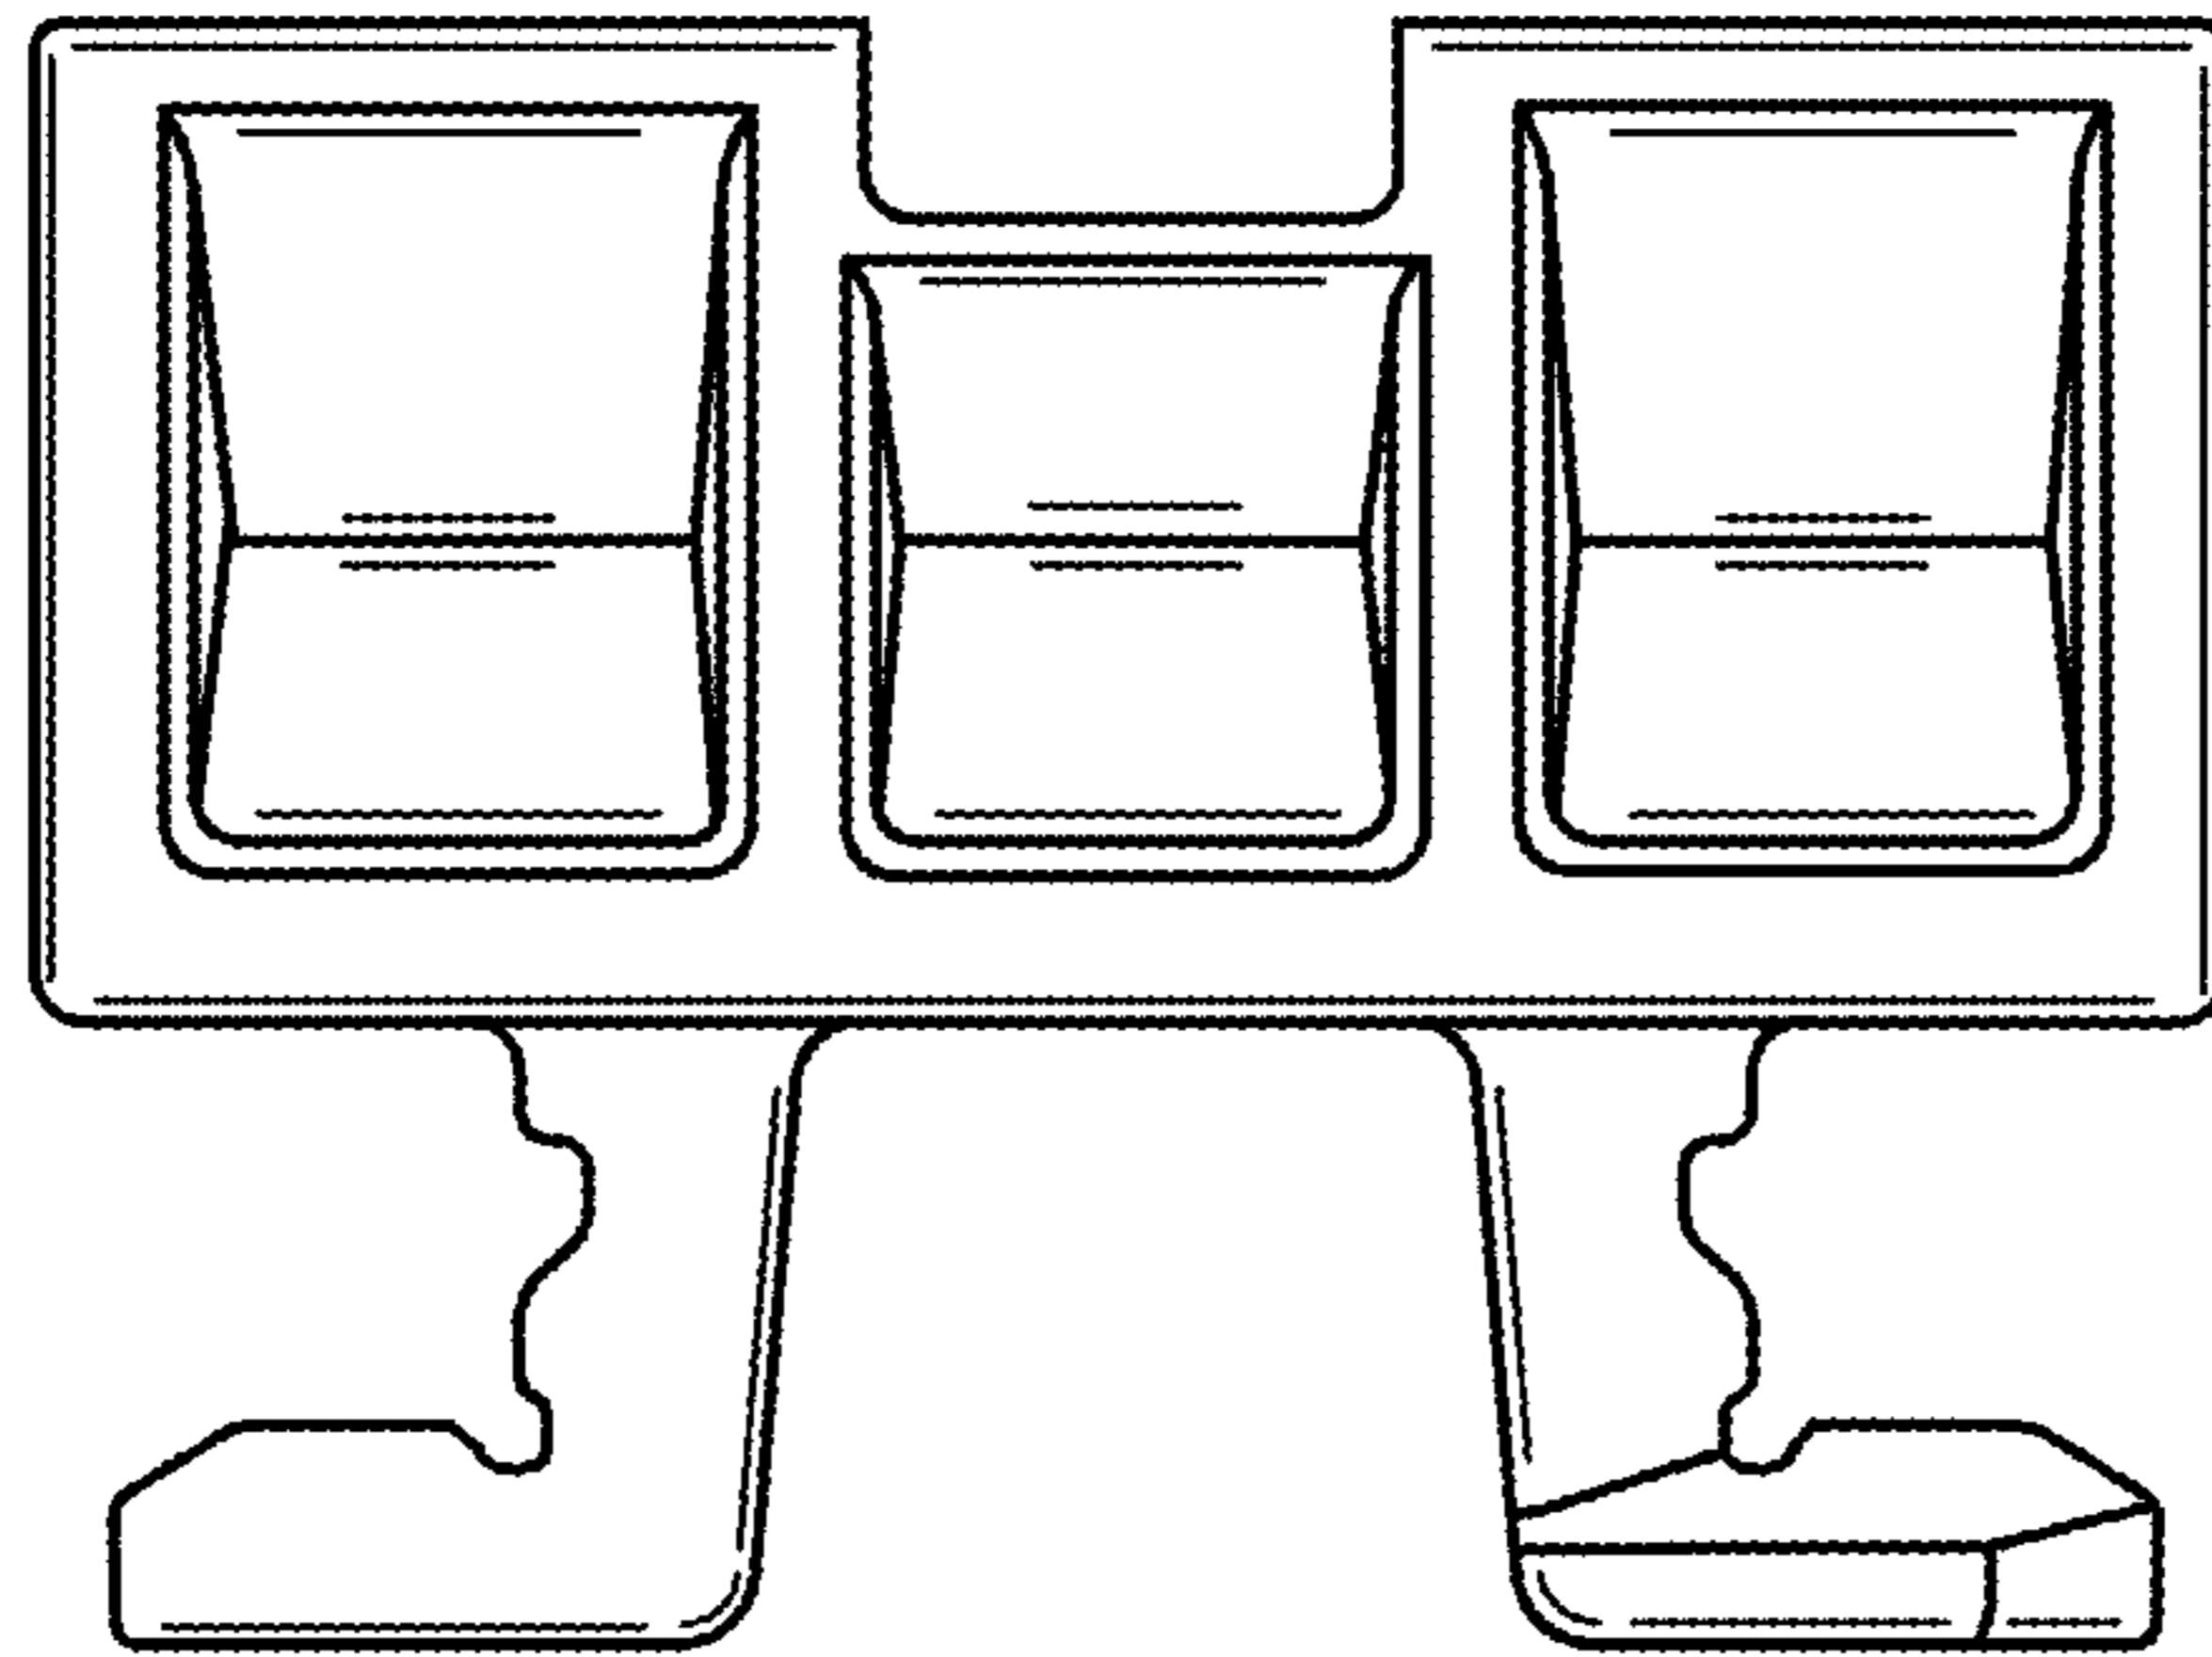

FIG. 1
- FIG. 1 is a front view of the pipe clamp.